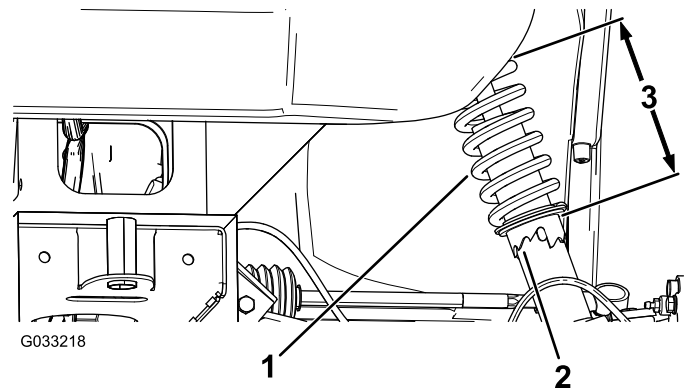

Figure 50
2. If the wheel camber is out of alignment, use the spanner wrench to rotate the collar on the shock absorber to align the wheel (Figure 50).